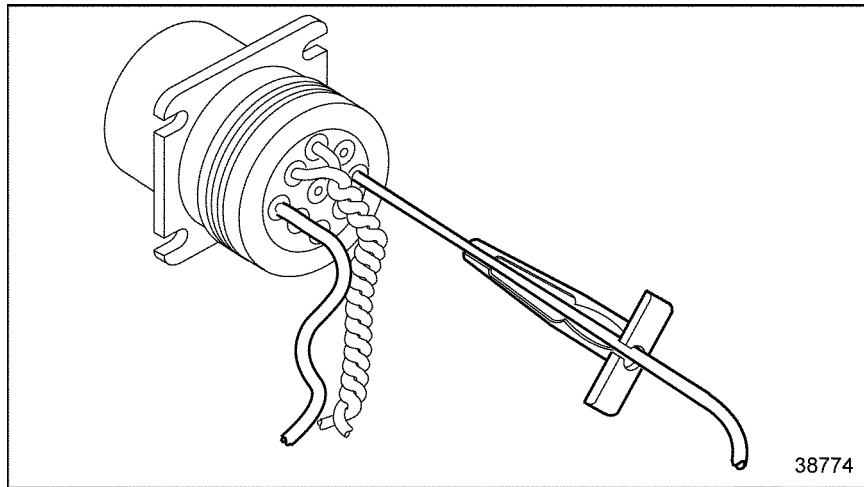

Figure 3-23 Removal Tool Position
1. With the rear insert toward you, snap the appropriate size remover tool over the wire of the terminal to be removed. See Figure 3-23.